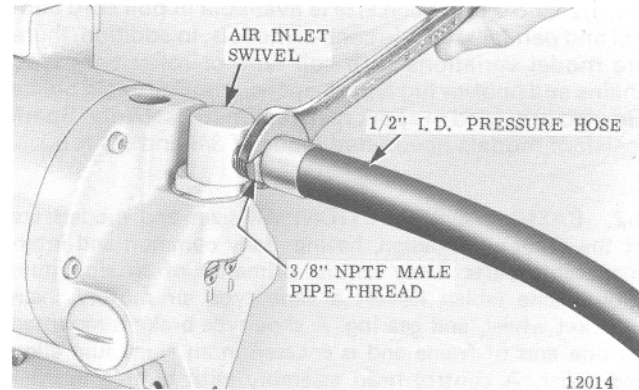

Figure 2-1. Connecting Air Hose to Hoist.
a. Connect hoist to nearest filtered and lubricated air source using minimum 1/2" I.D. air hose assembly (see Figure 2-1). Avoid use of reducing bushing and nipple or hose assemblies of smaller diameters which may cause restrictions.